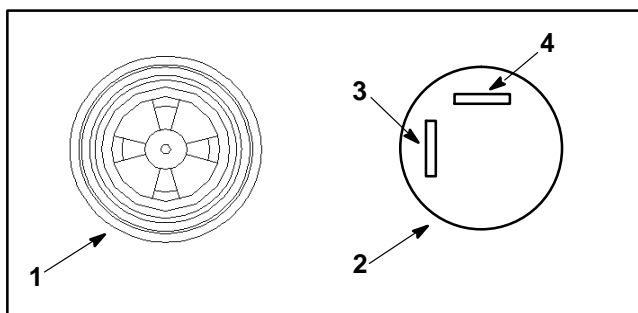

Figure 19
1. Isolate alarm from the circuit. Correctly connect 12VDC source to the terminals (Fig. 19).